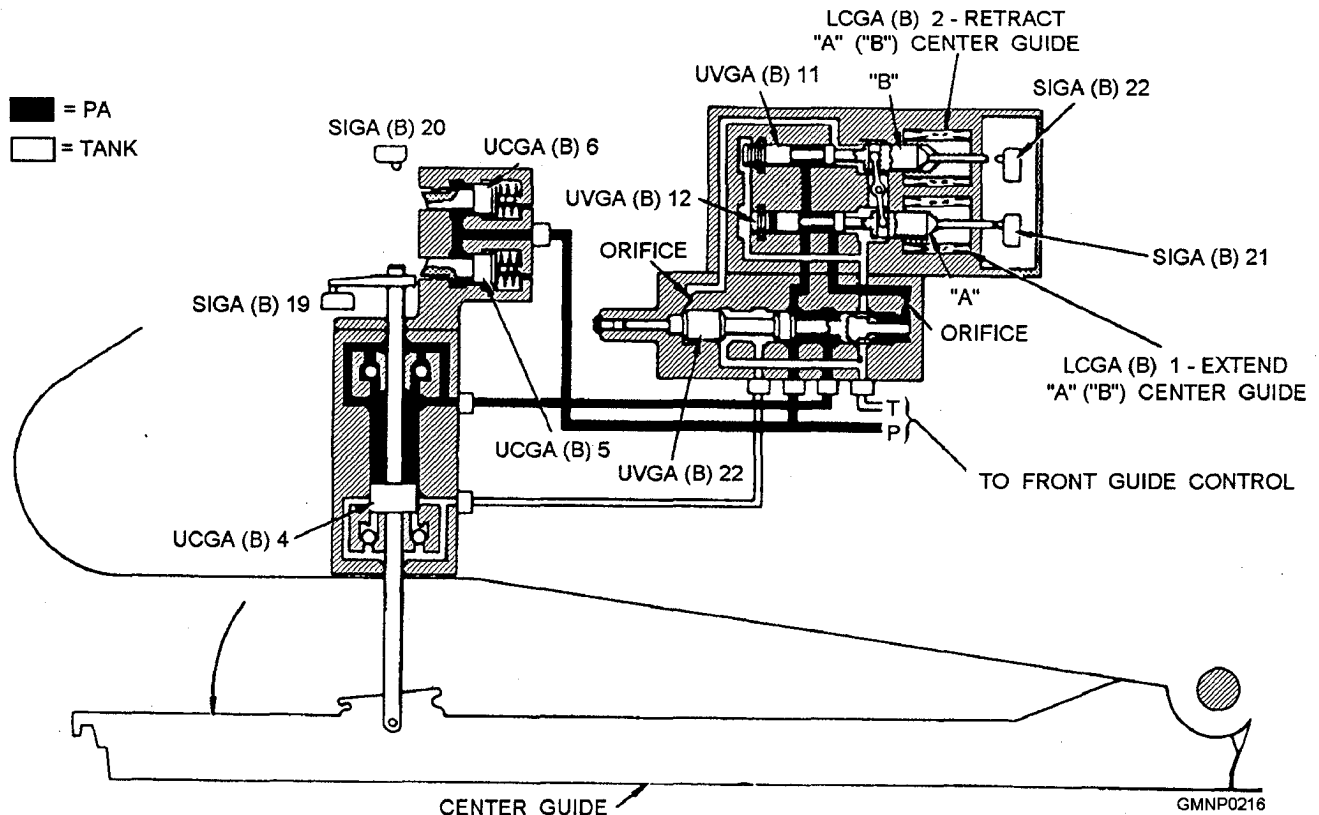

Figure 4-24.—Center guide extend; hydraulic schematic.
We will first discuss the hydraulic components associated with the center guide. We will then extend the unit from its normally stowed position. As we describe these hydraulic-mechanical operations, you may find it helpful to compare the two hydraulic schematics in figure 4-24
The solenoid assembly (shown in figures 4-24 and 4-25) is identified as LCGA(B)1 and LCGA(B)2. It is a detente type of unit that is mounted to directional valve UVGA(B)22. Hydraulic fluid from the solenoid assembly controls the position of the directional valve.
center guide casting and moves it. The upper switchrod (and arm) of the piston actuates the extended and retracted interlock switches SIGA(B)20 and SIGA(B) 19, respectively. The two spring-loaded latches UCGA(B)5 and 6 (refer to figs. 4-24 and 4-25) extend outward to engage the arm on the switchrod. The upper latch slides under the arm to lock the center guide in its retracted position. The lower latch slides over the arm to lock the center guide in its extended position.
The hydraulic-mechanical actions that extend the A-side center guide begin when solenoid LCGA(B)1 energizes (fig. 4-24). The detente mechanism is released and UVGA(B)12 shifts to the right. This pivots the rocker arm which shifts UVGA(B)11 to the left. The detente mechanism reengages. At this point, the interlock control circuit has done its job and, in effect, is no longer needed. The remaining actions are all strictly hydraulic and mechanical.